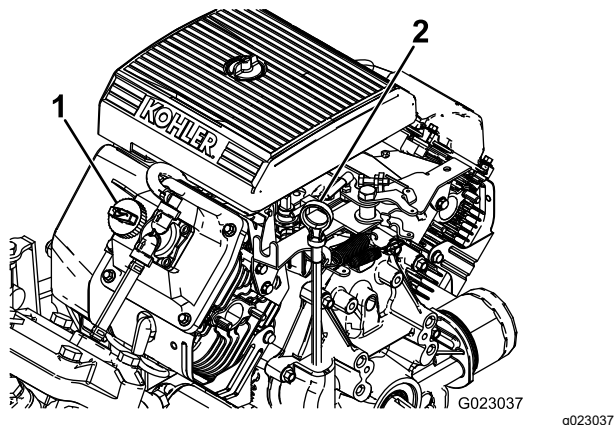

Figure 10
2. Remove the dipstick and wipe it with a clean rag (Figure 10).
4. If the oil level is low, remove the filler cap from the valve cover (Figure 10) and pour oil into the opening until the oil level is up to the FULL mark on the dipstick; refer to Servicing the Engine Oil \(page 47\) for the proper oil type and viscosity.